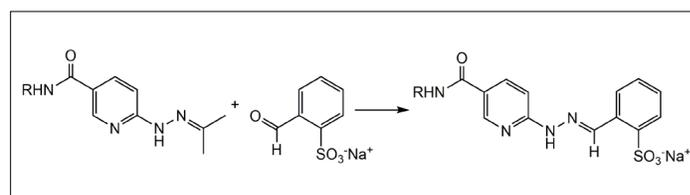

Figure 2: Colorimetric reaction used to quantify number of HyNic moieties on a biomolecule.
1. The molar substitution ratio (MSR) can be determined using a colorimetric reaction outlined in Figure 2. Addition of 2-sulfobenzaldehyde to a HyNic-modified biomolecule yields a bis-aryl hydrazone that absorbs at 350 nm. Refer to the HyNic-Protein MSR Calculator as well as the protocol that is appropriate for your lab equipment: HyNic Protein MSR Instructions.